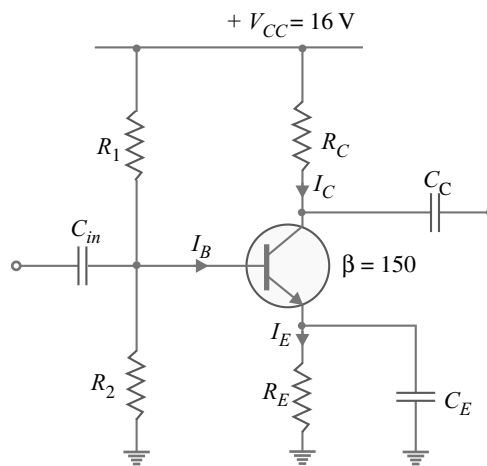

Fig. 7.47
**Example 7.40.** It is desired to design the biasing circuit of an amplifier in Fig. 7.47 in such a way to have an operating point of 6 V, 1 mA. If transistor has  $\beta = 150$ , find  $R_E$ ,  $R_C$ ,  $R_1$  and  $R_2$ . Assume  $V_{BE} = 0.7$  V.